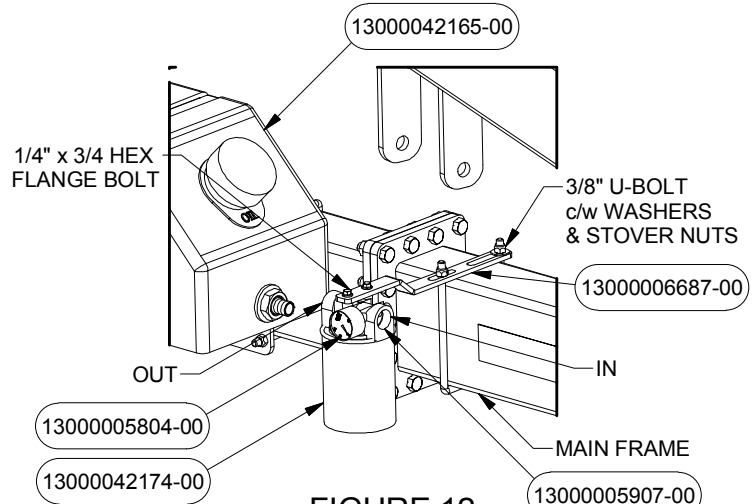

FIGURE 12
13. Assemble the Oil Filter Parts PN# 42174, 5804 and 5907. Attach Filter Assembly to the Bracket PN# 6687 using Hex Flange Bolts found in Bolt Bag PN# 6929. See Figure 12 for details.